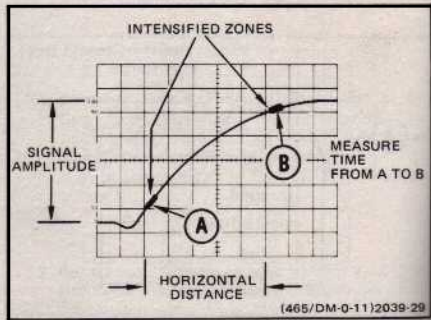

Figure 26. Rise time.
3. Vertically position the trace so that the zero reference of the waveform touches the 0% graticule line and the top of the waveform touches the 100% graticule line (see Figure 26).
4. Set the A TIME/DIV switch for a single-event display, with the rise time spread horizontally as much as possible. Horizontally position the display so the 10% point of the waveform intersects the second vertical graticule line (see Figure 26).
6. Use the DELAY TIME POSITION control to move the start of intensified zone (left-hand edge) until it just touches the intersection of the signal and the 10% graticule line (see Figure 26, Point A).
8. Use the DELAY TIME POSITION control to move the start of the intensified zone until it just touches the intersection of the signal and the 90% graticule line (see Figure 26, Point B).
EXAMPLE: The A TIME/DIV switch is set to $1 \mu\text{s}$. The DELAY TIME POSITION dial setting at Point A is 2.50 and the DELAY TIME POSITION dial setting at Point B is 7.50 (see Figure 26).